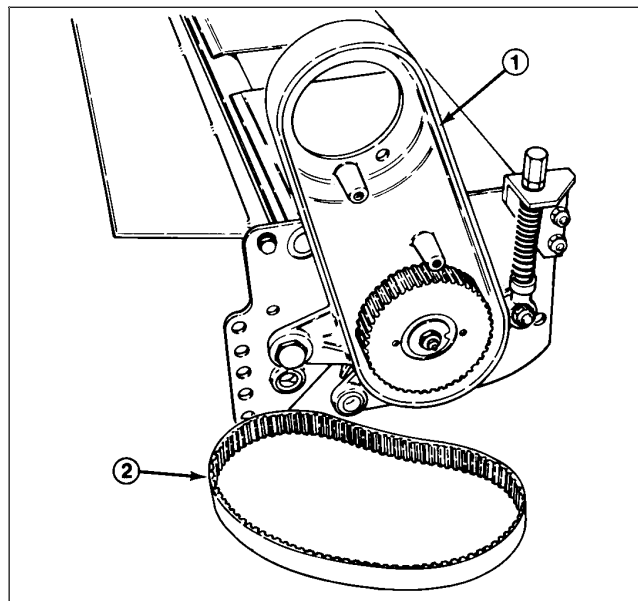

Figure 21
4. Disassemble the cone nut from the shoulder bolt securing the bearing housing to the side plate, remove the belleville washer and bolt and slide the bearing housing off the reel shaft (Fig. 21).
10. Ensure the slot in the pulley washer is aligned with the roll pin in the pulley and install the washer, toothed washer and reel capscrew (Fig. 21). Apply a medium strength thread locking compound to the reel capscrew during assembly. Torque the capscrew to 45 - 55 ft.-lbs.